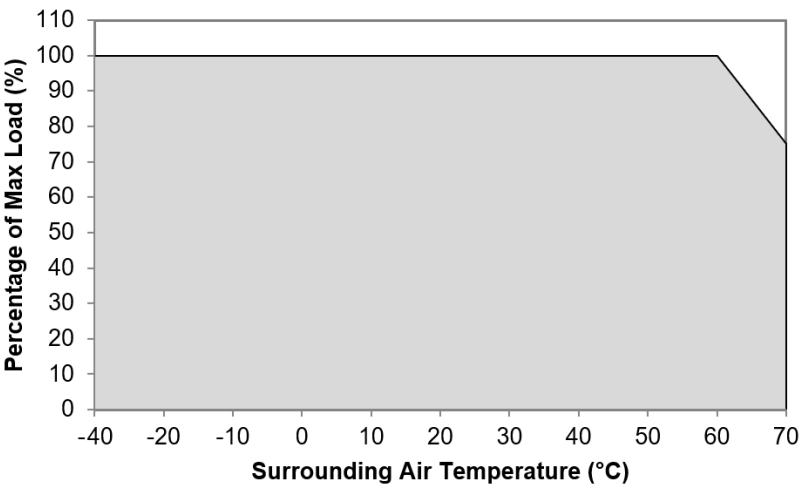

Fig. 2 De-rating for Normal Operation
1. The unit may degrade, or be damaged, when it is continuously used outside the shaded region, refer to the graph shown in Fig. 2.